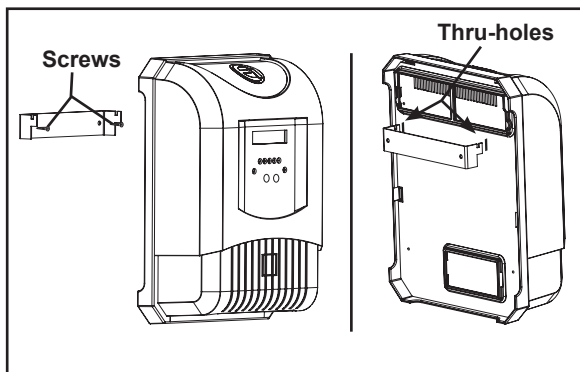

Figure 5. Attaching the Power Pack
3. Position the power pack in place by aligning the bracket with the corresponding thru-holes (see Figure 5).